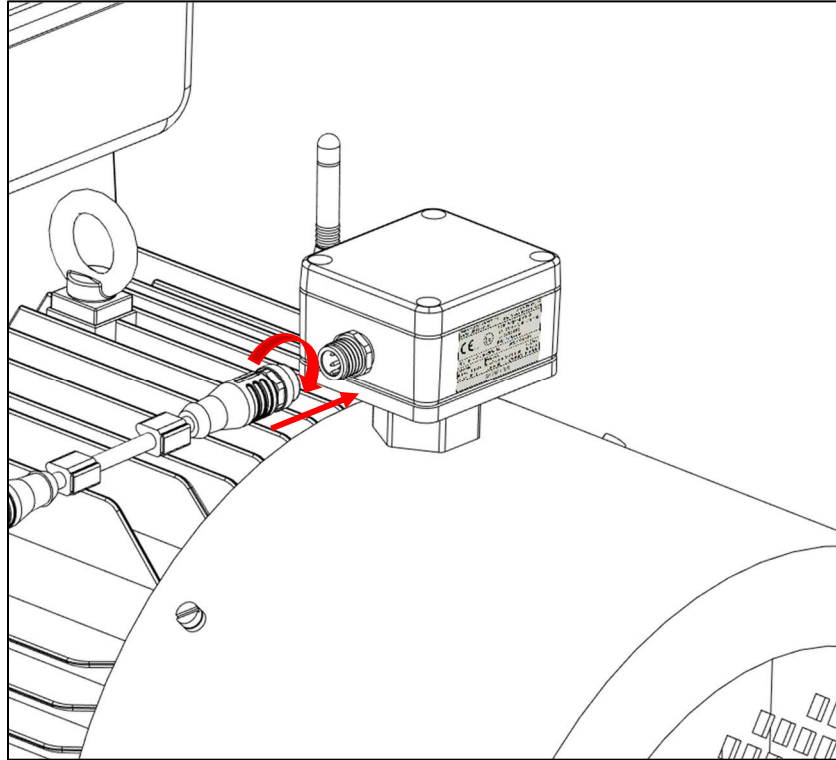

Figure 13.- Connecting the power supply to the InduEye®
2. Insert and screw the cable connection from the power generation module, in this case a Thermoelectric generator (male connector) to the InduEye® VibroSense 3 module power supply connector (female connector), as shown in Figure 13.